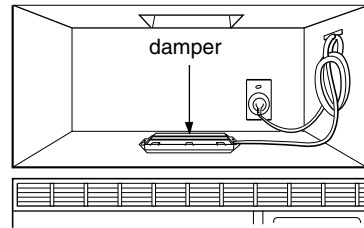

Figure 33
5. Roof vented installation: See Figure 33